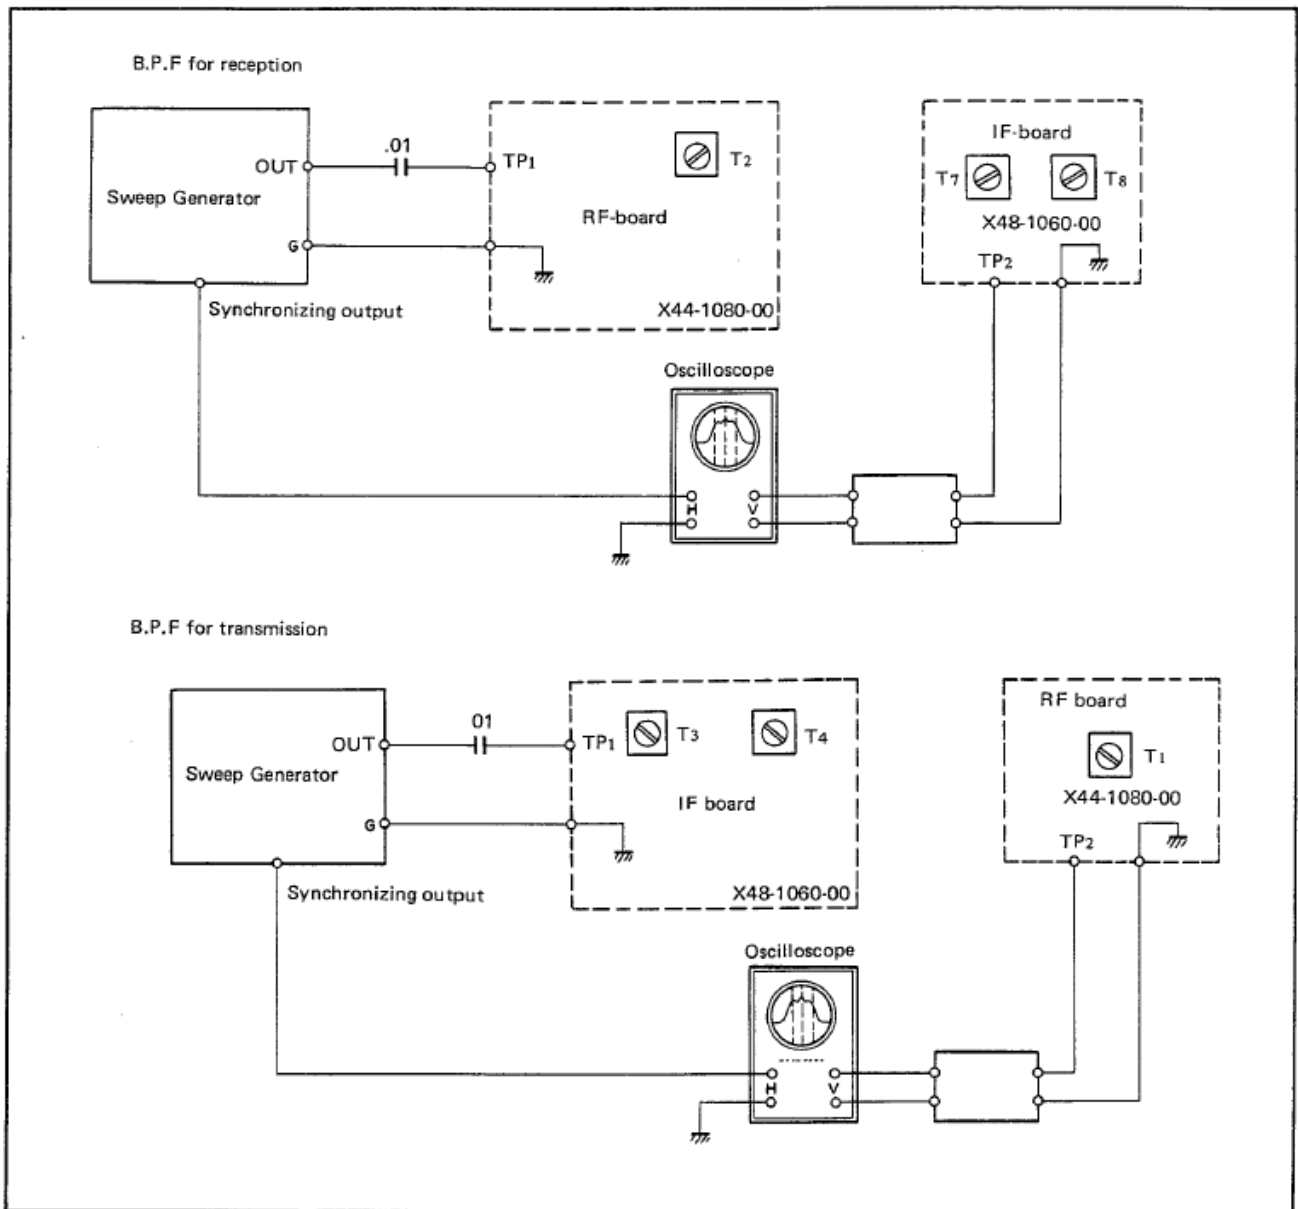

Figure 16. Band Pass Filter Test Circuit
**PROCEDURE:** See Figure 16 for the test setup. After all of the connections described in Figure 16 have been made for the receiver adjustment, tune T2 on the RF board, and T7 and T8 on the IF board for the waveform shown in Figure 17.
Now make the connections for transmission as shown in Figure 16. Set the standby switch to SEND and adjust T3 and T4 on the IF board and T1 on the RF board for the waveform shown in Figure 17. Return the standby switch to REC.